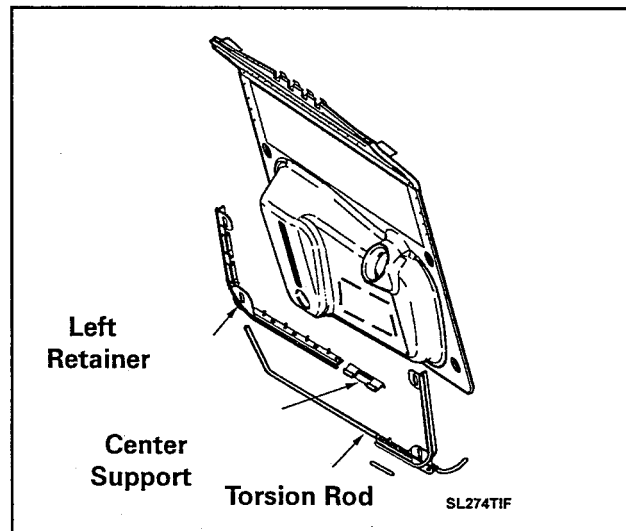

Figure 4-15
3. Slide the left retainer toward the center of the lid and remove from behind the lid flange (**Figure 4-15**).